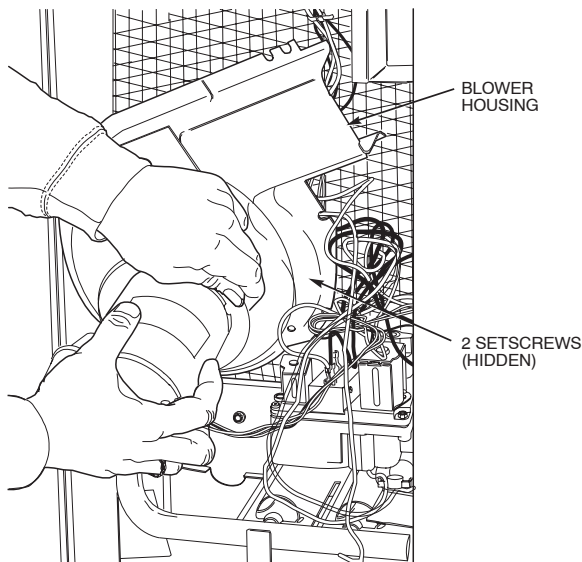

Fig. 20 - Removal of Motor and Blower Wheel
2. Remove the 7 screws that attach induced-draft motor mounting plate to blower housing (See Fig. 20).
3. Slide the motor and blower wheel assembly out of the blower housing (See Fig. 20). Clean the blower wheel. If additional cleaning is required, continue with Steps 4 and 5.